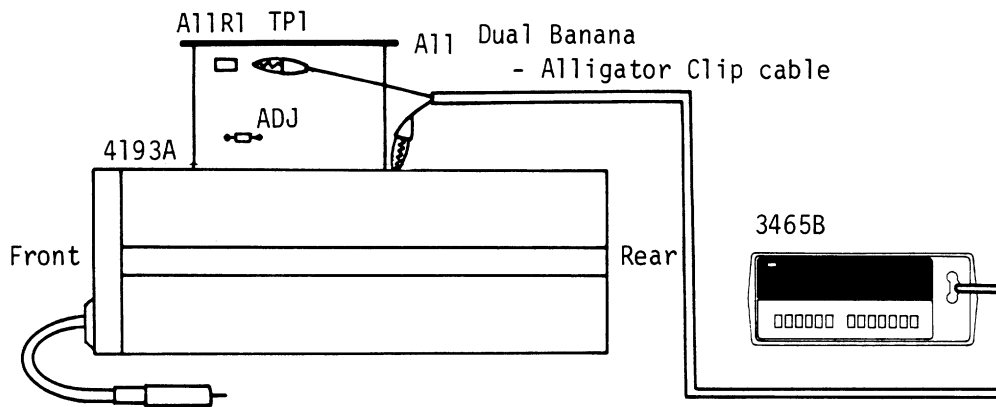

Figure 5-5. Integrator Offset Adjustment Setup.
5. Connect the INPUT terminal of the 3465B to A11TP1 and chassis, as shown in Figure 5-5.